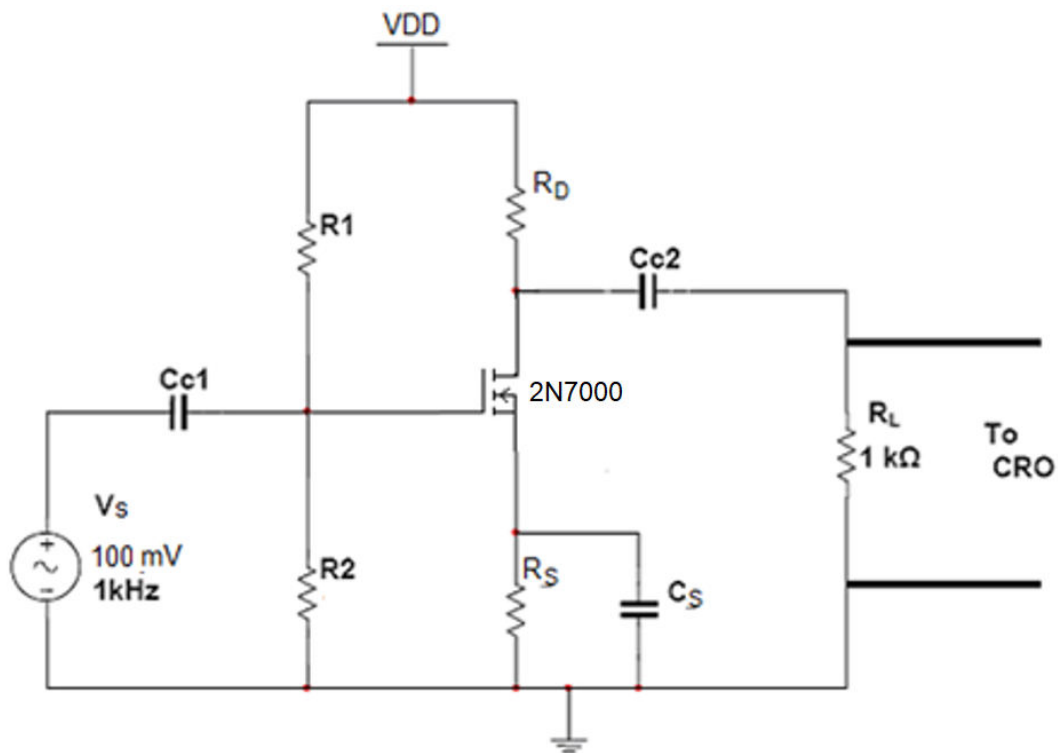

Figure1. Common Source Amplifier
1. Connect the voltage divider bias network from the circuit shown in Figure 1.
1. Connect the circuit as shown in Figure 1.